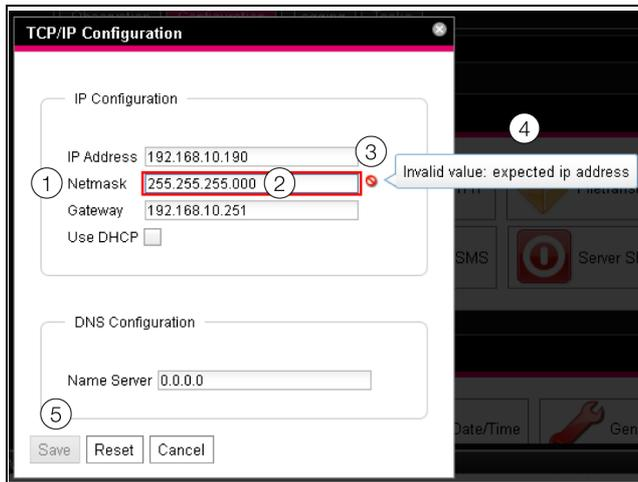

Fig. 110: Display of an incorrect entry
- A red "prohibited symbol" (fig. 110, item 3) appears after the incorrect entry (fig. 110, item 2) in the **Netmask** field (fig. 110, item 1)
- By holding the mouse pointer over the prohibited symbol, additional information about the error will appear (fig. 110, item 4).
- The **Save** button is deactivated (fig. 110, item 5), so that the current values cannot be saved.